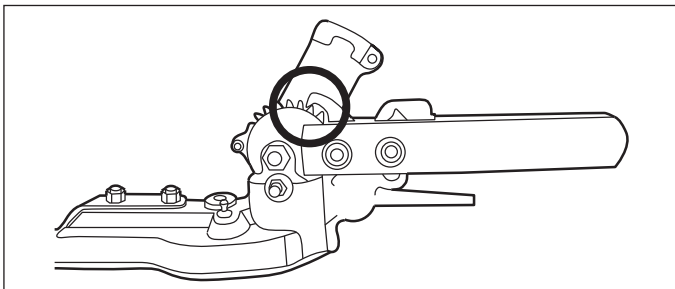

Fig. 15c
- c). Release the unlock levers (C3) when the desired angle is reached. Ensure that the hook engages between two teeth of the tooth wheel. (See Fig. 15c)